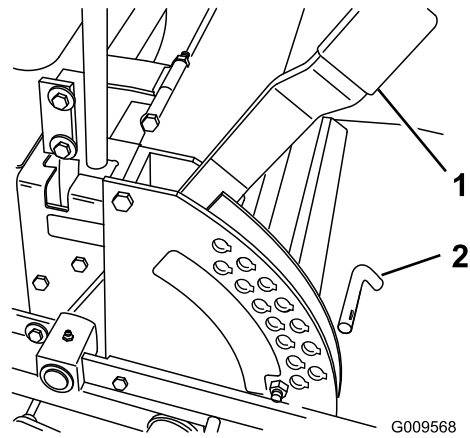

Figure 20
1. Raise the height-of-cut lever to the transport position (also the 5 inch (127 mm) cutting height position) (Figure 20).
2. To adjust, remove the pin from the height-of-cut bracket (Figure 20).
3. Select a hole in the height-of-cut bracket corresponding to the height-of-cut desired and, insert the pin (Figure 20).